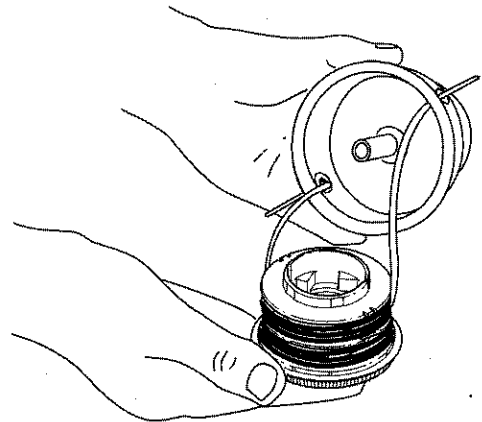

Fig. 26
3. Insert the ends of the prewound inner reel line into the outer spool eyelets (Fig. 26). Push the new inner reel, arrow side up, into the outer spool.